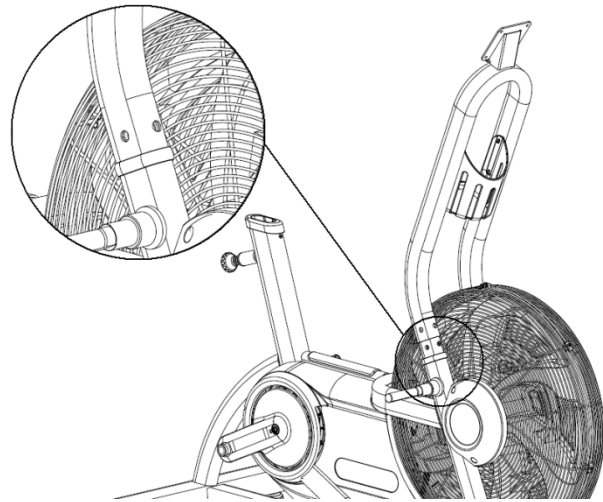

Fig. 5
4. Hover the console mast (Fig. 5) over the base joints and mate the wires coming out of each component.